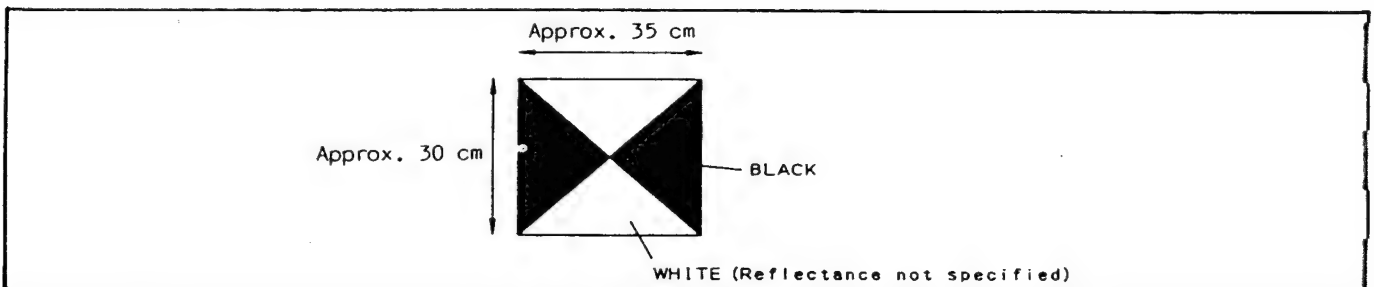

Fig. II-22
- ° CZ adjustment chart (Prepare this chart referring to Fig. II-22.)